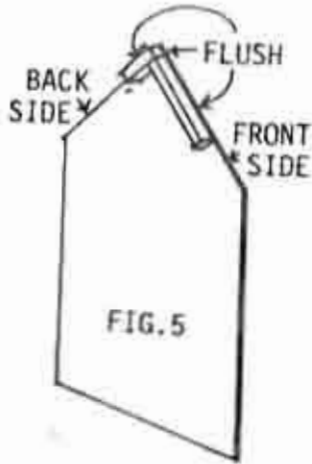

FIG. 5
Step 5 Before doing Step 5 look closely at Fig. 5 so that you understand which is the front and back side of the peak on each side section. The side section with the window goes on the left side of the house when looking at the front of the house. The side without the window, which is shown in Fig. 5, goes on the right side of the house. To correctly determine the front and backs of the peaks place the sides together with the smooth sides facing out. Be sure to place the side section with the window on the left and the plain side section on the right. Then mark front and back on peaks. Next take one short roof support (pc. of wood 3/4" sq. x 2 1/2" L) and one long roof support (pc. of wood 3/4" sq. x 7 1/4" L). Place glue along one side of the short roof support and attach it to the inside of the side section with
no window along the back side of the peak. Place this support flush to the very top of the peak and make it flush with the back edge of the peak. Secure with two 7/8" nails from the outside of the side section. See Fig. 5. Now glue the long support to the front side of the roof peak. Make it butt against the short roof support and make it flush with the front edge of the peak. Secure with three 7/8" nails. Repeat for other side. See Fig. 5.